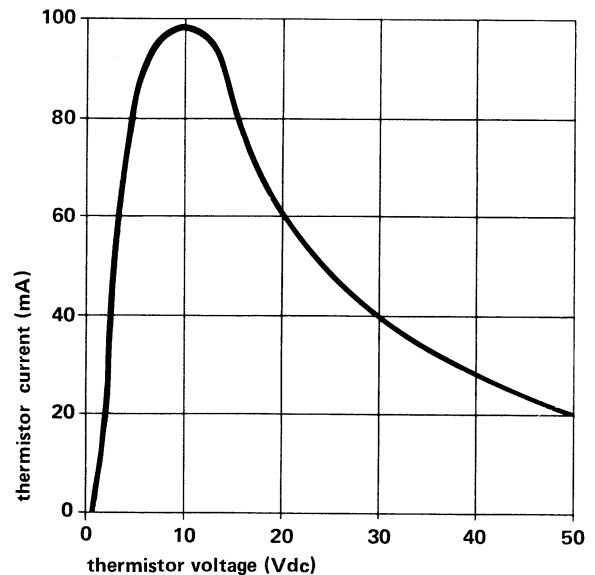

figure 5. Current-limiting curve
2.11 The 7001(A) provides current-limiting circuitry for both the station-side and switch-side loops. This prevents damage both to the 7001(A) and to external equipment, and it also enhances the module's ability to operate in short-loop situations. On the station side, maximum loop current supplied by the 7001(A) is normally limited to approximately 100mA by the module's nominal 400-ohm battery-feed resistance circuitry. On the switch side, maximum loop current (supplied either by the switch or by a switch-side tandem DLL) is also normally limited to approximately 100mA by 200-ohm resistance circuitry in the 7001(A). If, for any reason (e.g., a fault condition), the station-side or switch-side loop current exceeds 100mA, two thermistors on the station side and one thermistor on the switch side of the 7001(A) function automatically to limit loop current to approximately 100mA. Figure 5 shows a current-limiting curve that illustrates the foldback characteristics of each of the 7001(A)'s thermistors. This information, together with other circuit characteristics of the 7001(A), can be used to calculate loop current.